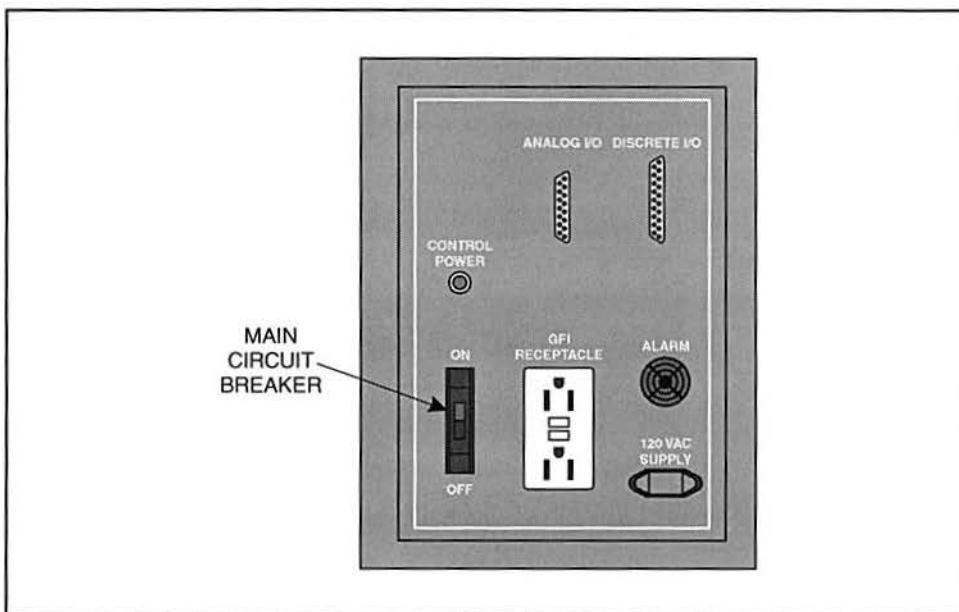

Figure 37. The Main Circuit Breaker
- 1. Locate the main circuit breaker on the left side of the control panel of the T5554, as figure 37 shows. This switch controls all electrical power to the T5554.